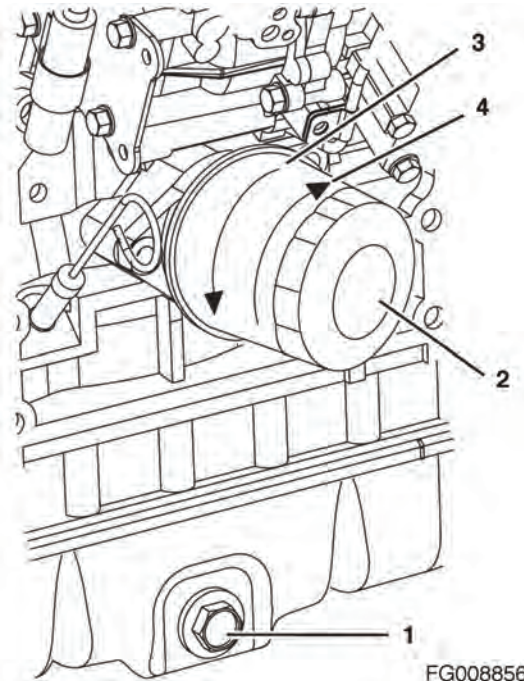

Figure 76
6. Remove the oil drain plug (1, Figure 76) from the engine oil pan. Allow oil to drain.
7. After all oil has been drained from the engine, reinstall the oil drain plug (1, Figure 76) and tighten to 14 -17 ft•lb (19.6 -23.5 N•m; 2.0 -2.4 kgf•m).
1. Turn the engine oil filter (2, Figure 76) counterclockwise (3, Figure 76) using a filter wrench.
3. Lightly coat the gasket on the new oil filter with engine oil. Install the new engine oil filter manually by turning it clockwise (4, Figure 76) until it contacts the mounting surface. Tighten an additional 3/4 of a turn using the filter wrench.